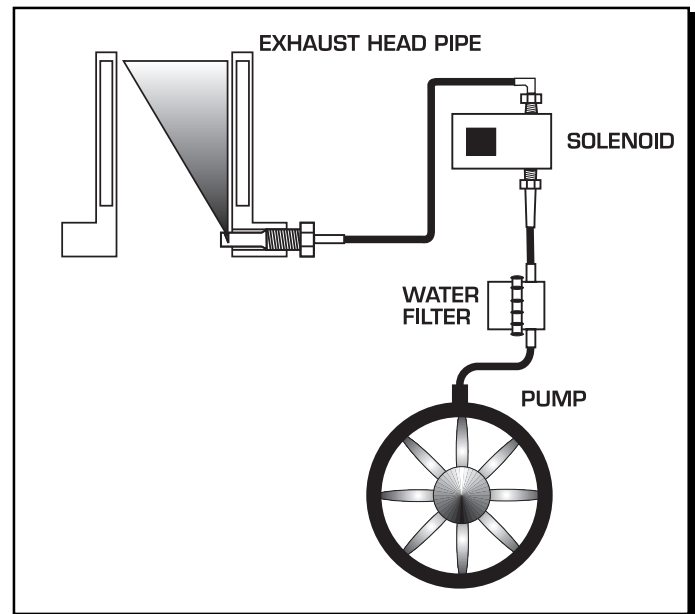

Figure 4 Remote Mount.
3. Thread the hole using a 1/16" NPT pipe tap. Install the spray nozzle so that the water will spray in the direction of the exhaust gasses (Figure 4).